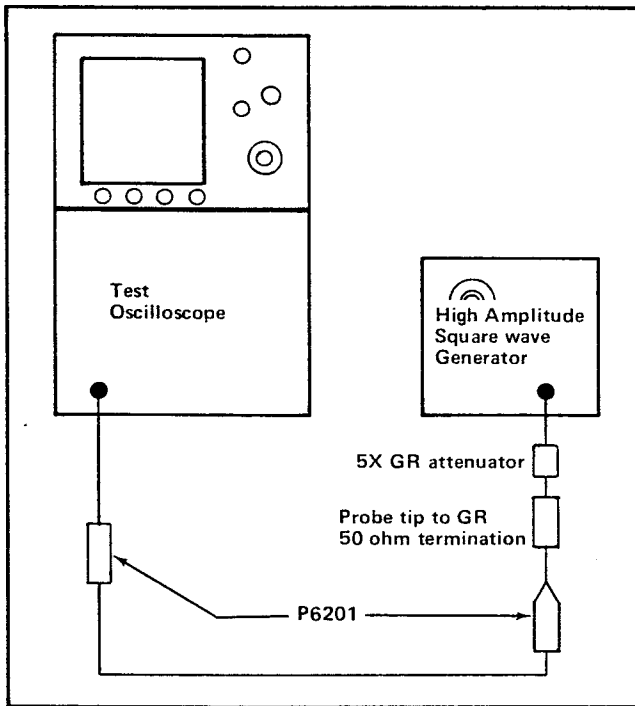

Fig. 5-5. Equipment setup for step 6.
a. Connect the equipment as shown in Fig. 5-5.